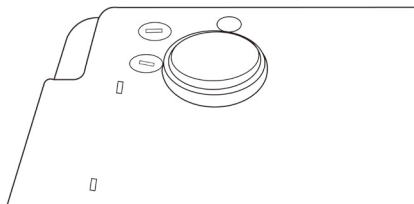

Figure 9-1 Replacing the fuse
Use a cross screwdriver to remove the fuse holder in the direction of the arrow (counterclockwise), and replace the damaged fuse with a primary fuse provided or approved by our company. Screw the fuse holder in the opposite direction to fasten it. The replacement method is shown in Figure 9-1:
- Press the fuse holder downward and rotate it counterclockwise as shown in Figure 9-1. After removing the damaged fuse replacing a new one, press down the fuse holder and rotate it clockwise.